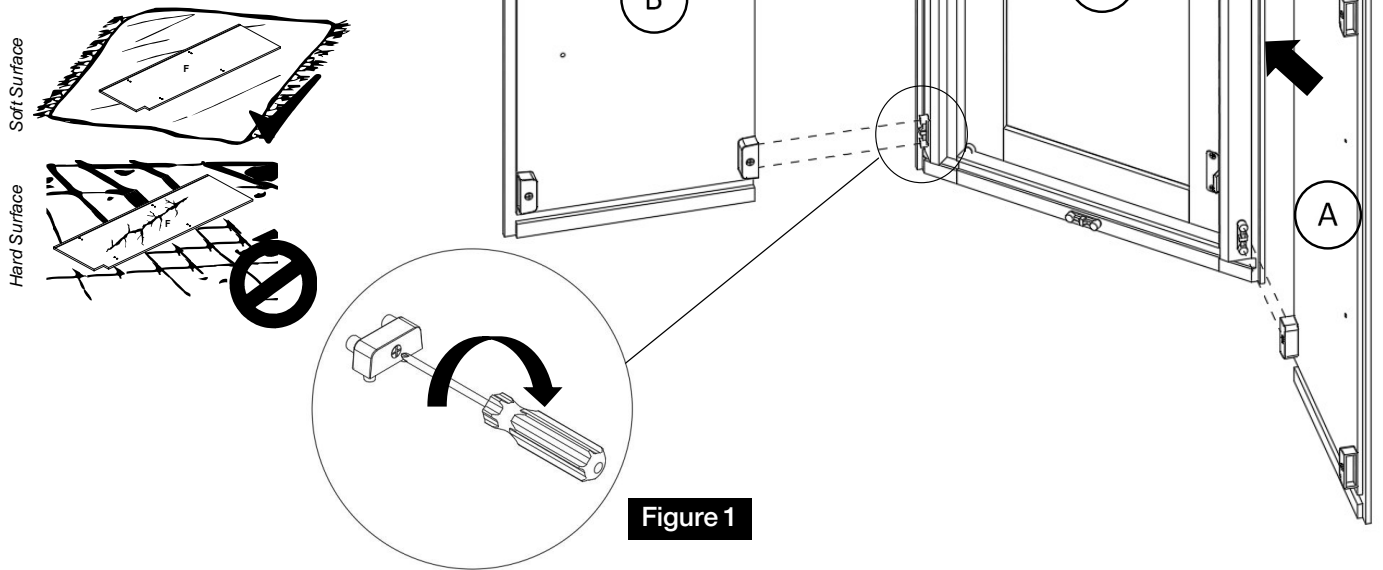

Figure 1
Assemble the Side Panels (B,A) onto the Frame (F) by connecting the male and female cam locks and using a screwdriver to turn the lock clockwise. (Figure 1)